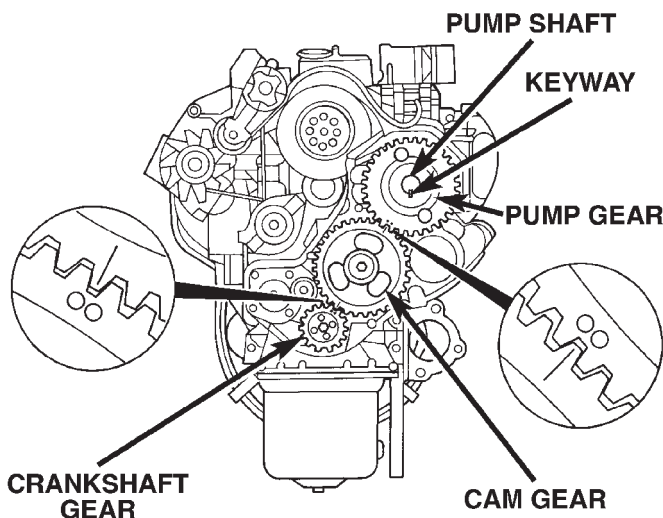

Fig. 36 Checking Fuel Injection Pump Gear Timing
(6) Verify timing marks on crank, cam and pump are aligned (Fig. 36).
(7) Perform necessary gear alignment/repairs as needed.
(8) After repairs are completed, erase DTC using DRB Scan Tool.